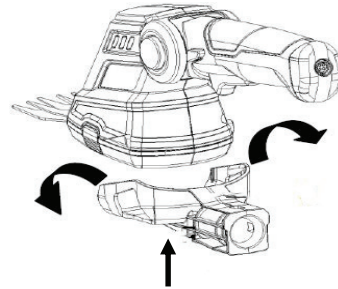

Fig. 4
(Grass Shear Only) (Fig. 4 - 7)
- 1) To attach the telescopic handle, push the wheel cart onto the tool in the direction of the arrow until it clicks into position. (Fig. 4)